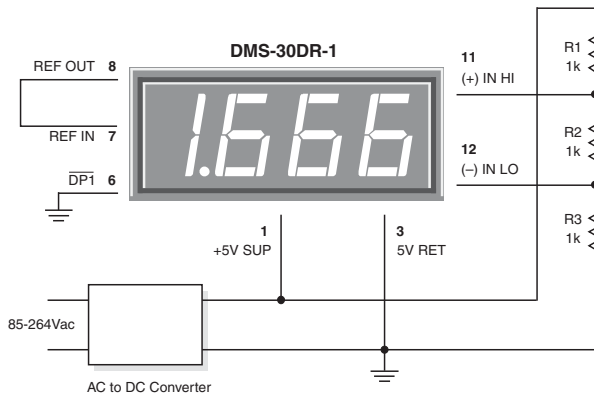

Figure 3. Differential Input Configuration
- 2. Differential Input Configurations:** Differential measurements can be made with all DMS-30DR meters. Figure 3, though not a practical real-world application, uses a voltage divider to demonstrate the concept of a differential input signal. Be careful not to exceed the  $\pm 2V$  common mode voltage limitation for 5V-powered meters.